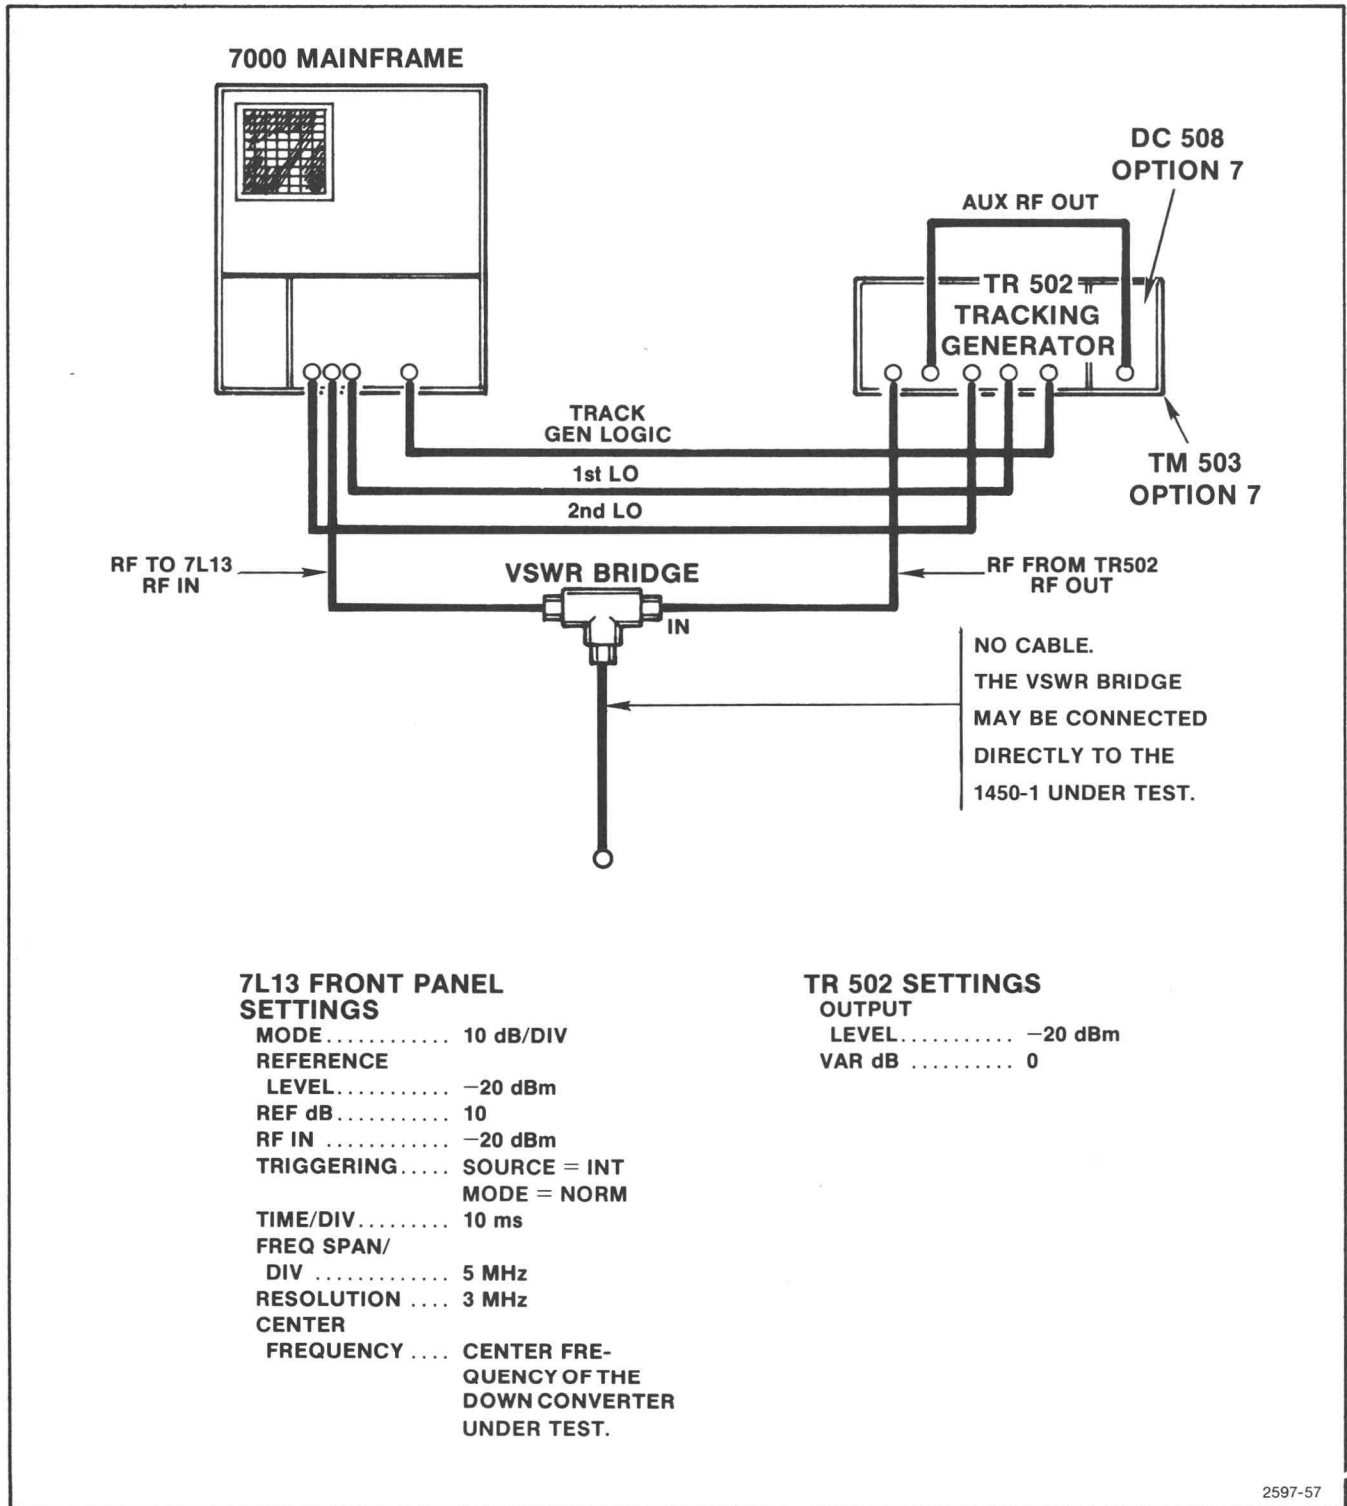

Fig. 4-12. Test Setup for Checking Return Loss.
(a) Connect the test setup as shown in Fig. 4-12. Set the TR 502 output level for a -20 dBm signal and set the spectrum analyzer at the channel center frequency of the TDC under test. Channel center frequency is defined as 3 MHz above the channel lower limit and 3 MHz below the channel upper limit. See Table 4-2 for channel limits. This TR 502 output level should remain the same through step 2. Establish a reference level on the test oscilloscope before any connections are made to the test arm of the **vswr** bridge. Disconnect the cable connected to P88 on A6 RF Mixer board and connect the **vswr** bridge test arm to P88. See Fig. 8-1 for circuit board locations.
(12) Adjust C55 (A, B, C, and D) on A2 RF Bandpass Filter for bandpass (6 MHz) and bandpass flatness (± 0.2 dB). Note that in UHF Down Converters there are only two adjustments for C55 (A and B) in A2 and A5 (Bandpass Filters).
(13) The preceding steps 11 and 12 are interactive. Therefore, it may be necessary to readjust C82, C87, and C55 in order to achieve a 6 MHz bandpass, bandpass centering, and bandpass flatness.
(14) Recheck the SYSTEM (1450-1) RF INput for a return loss of 20 dB or better using the test setup in Fig. 4-12.